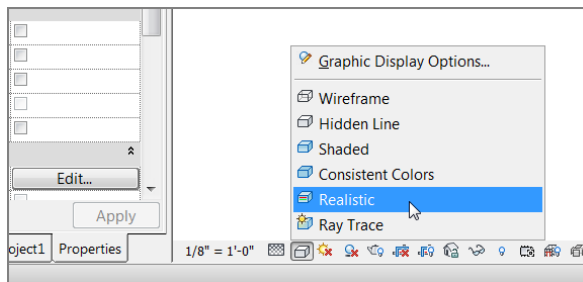

FIGURE 1.42: The Visual Style button enables you to view your model in color. This is typical for a 3D view.
2. On the View Control bar, click the Visual Style button and choose Realistic, as shown in Figure 1.42.